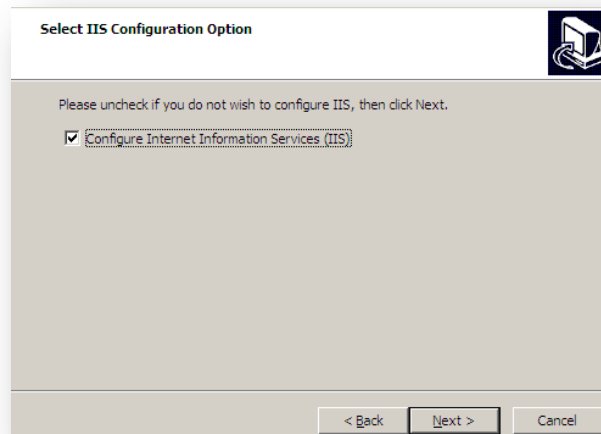

Figure 14 – Model 375 Web Page and Supervisor Service Configure IIS
6. Uncheck the “Configure Internet Information Services (IIS)” option and click “Next”. See Figure 14.